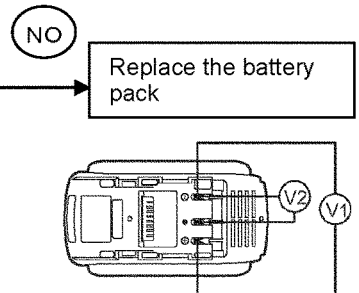

Fig1
(1) fusing resistor. (Fig. 1)
3. Attach the anvil to the driving shaft assembly as shown in Figure 1.